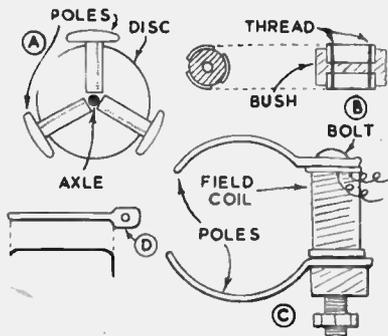

Fig. 1—How the parts are made
The armature has three iron poles spaced at 120 degree intervals round an axle and this part may be made up as shown at (A) in Fig. 1. Each of the poles is a small iron bolt (which may be obtained from an ironmonger's) with the shank sawn off. Dimensions can naturally vary considerably, but it is suggested each pole be  $\frac{3}{4}$  in. long. A disc of scrap wood about  $1\frac{1}{2}$  ins. in diameter is also cut.
The three poles should now be arranged as shown in Fig. 1, and may be secured to the disc with staples. Also have the axle in position projecting through a hole in the disc and support the whole on blocks so that the axle is vertical.